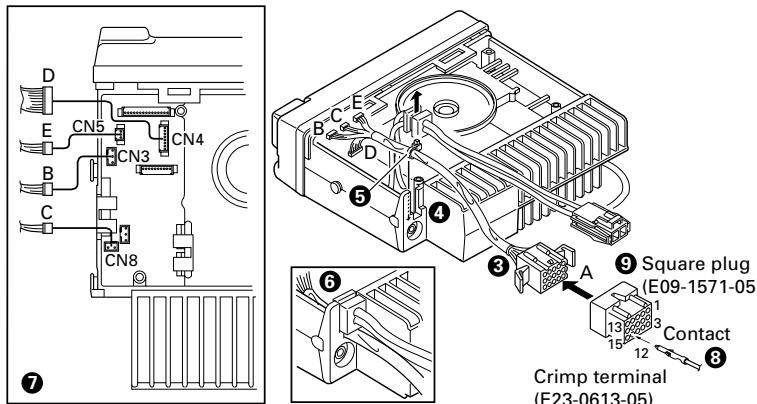

Fig. 2
4. Replace the DC cord bushing (⑥).
5. Connect the KCT-19 to the TX-RX unit (A/2) as shown in Figure 2 (⑦).
6. Connect the KCT-19 to the external accessory by inserting the crimp terminal (⑧) into the square plug (⑨), both of which are supplied with the KCT-19.